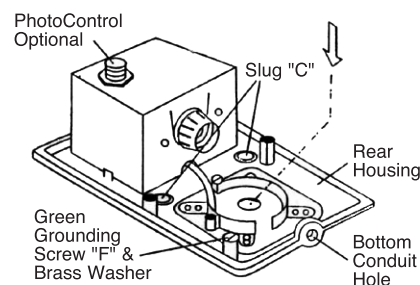

Figure 3
- a. Mounting with two bolts - Knock out two slugs (C Figure 3) in the rear housing. Mount with (2) bolts or lag screws.
- c. Optional bottom conduit entrance - Drill out or tap out recessed indentation in the bottom of rear housing. (See Figure 3).
4. Using provided twist-on or other approved connectors, connect the fixture wires to the supply wires as follows: (See Figure 3 & 4).